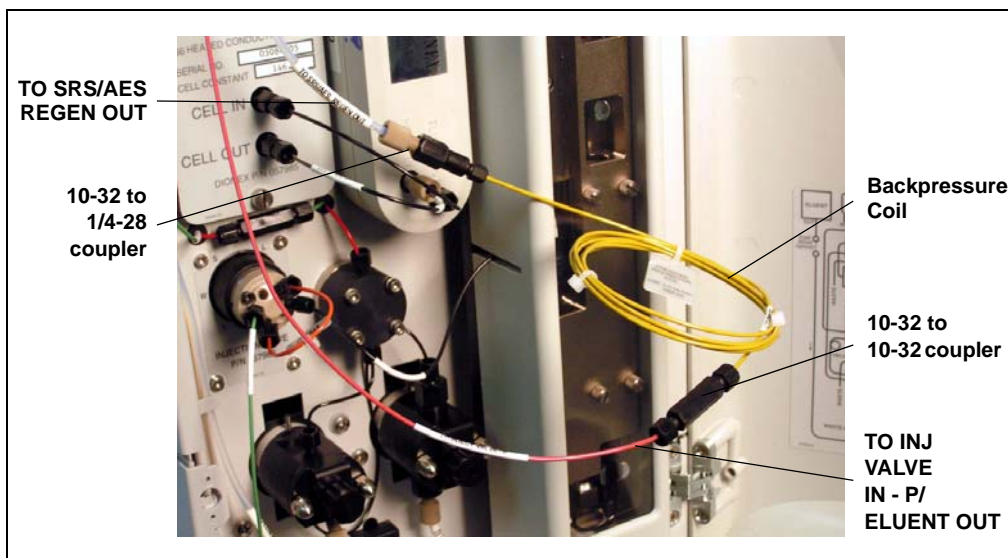

Figure 5-53. Backpressure Coil Connections for Conditioning the EPM with Carbonate/Bicarbonate Eluent
6. Connect the **TO SRS/AES REGEN OUT** line to the 10-32 to 1/4-28 coupler (see Figure 5-53).
**NOTE** The backpressure coil connection in Figure 5-53 is temporary; it is required only during the conditioning procedure described in the next section.